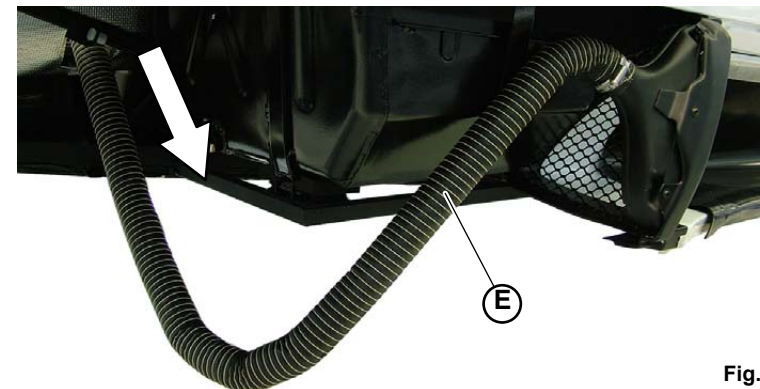

Fig.9
4. Disconnect the pipe (E-Fig.9) from the air conveyor (by means of the clamp) and remove it from the engine compartment.